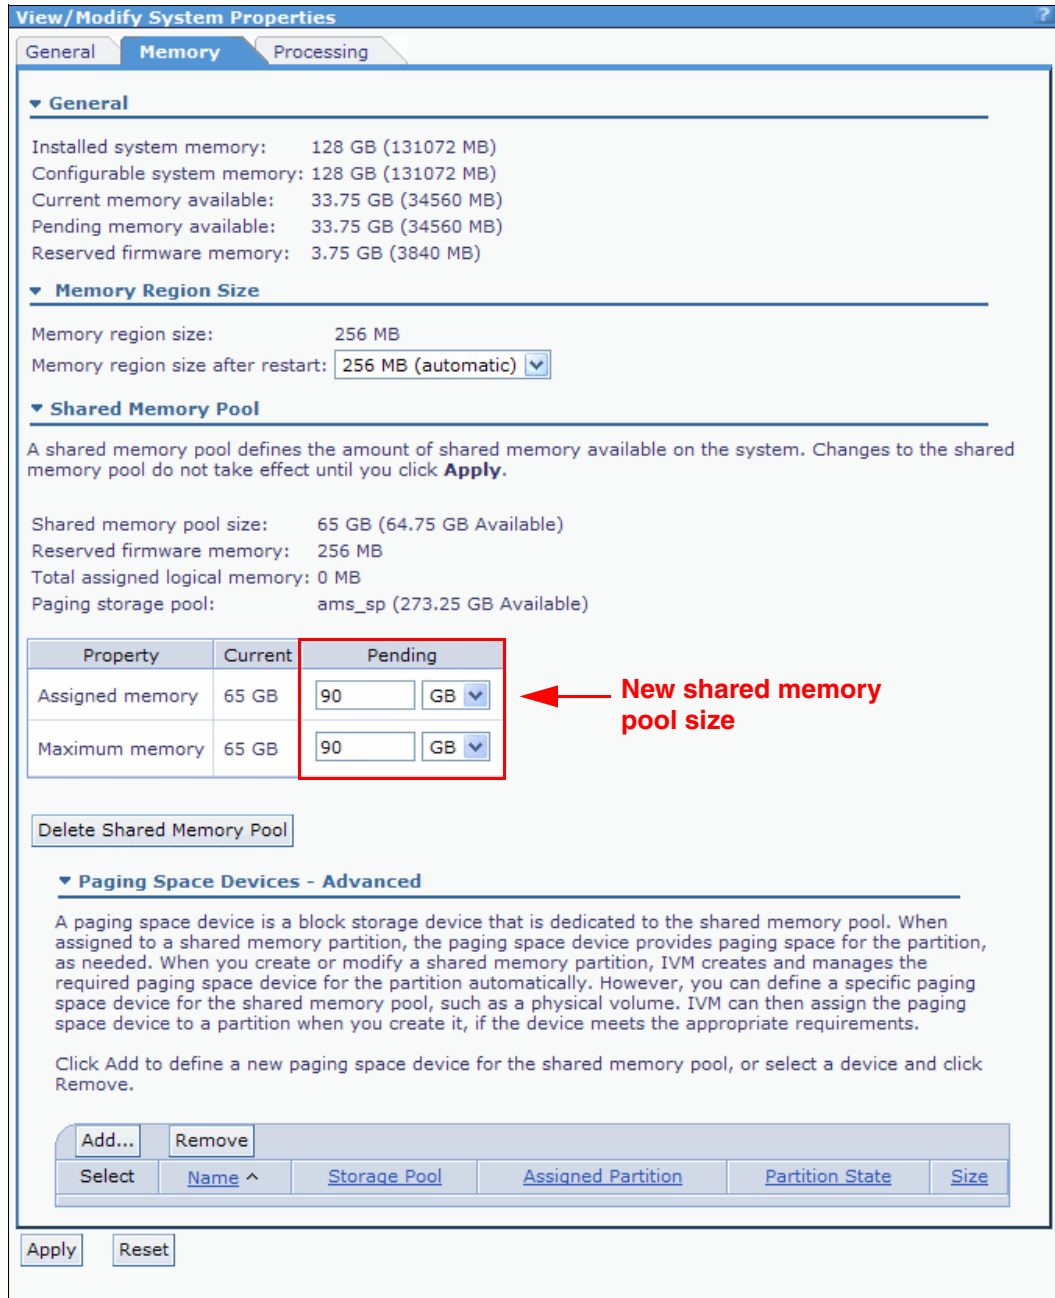

Figure 4-26 Changing the shared memory pool size
2. Change the Assigned memory field to the wanted amount. Change the Maximum memory field to at least the same amount of the Assigned memory field. The maximum memory for the shared pool must be equal or greater than the assigned memory. See Figure 4-26.